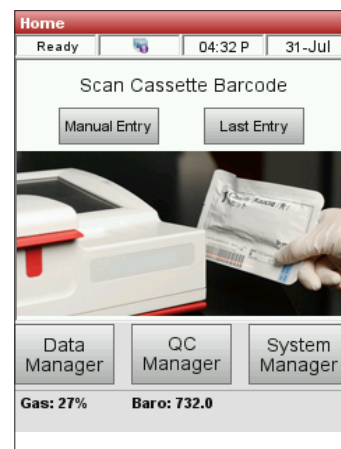

Figure 6. Home screen
1. On the Home screen, scan the bottom bar code on the SRC package by holding it 2–3 inches (5–8 cm) from the bar code scanner located on the bottom-right corner of the analyzer (figure 6).